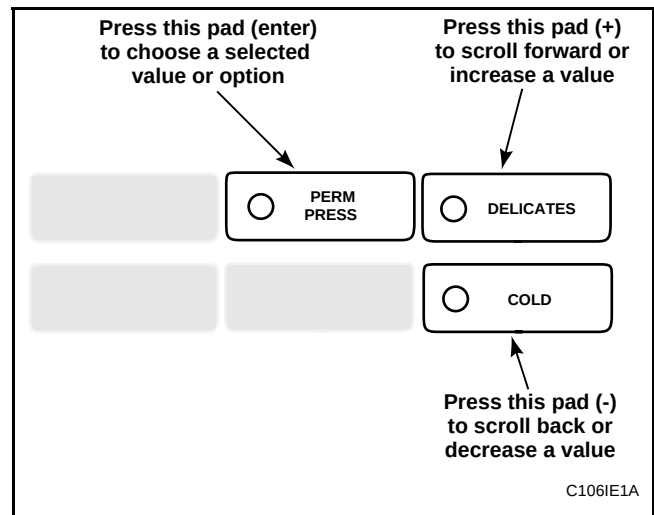

Figure 87
5. Press the DELICATES (+) or the COLD (-) keypad to increase or decrease the current three digit number to the desired three digit number selected from Chart 5. See **Figure 87**.